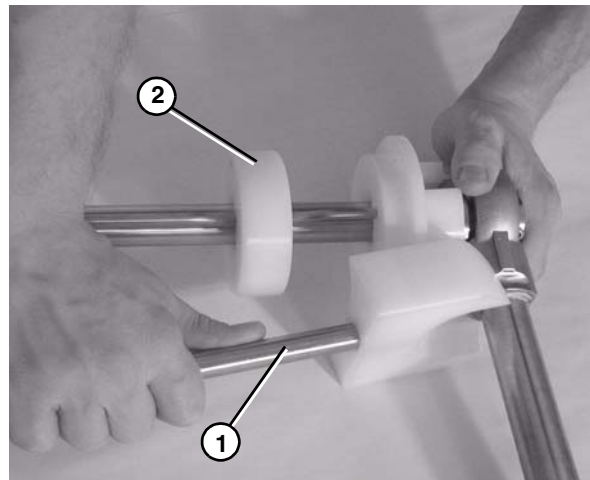

Figure 70
6. Remove the guard bar (Figure 70, item 1).
7. Remove the pucks (Figure 70, item 2).